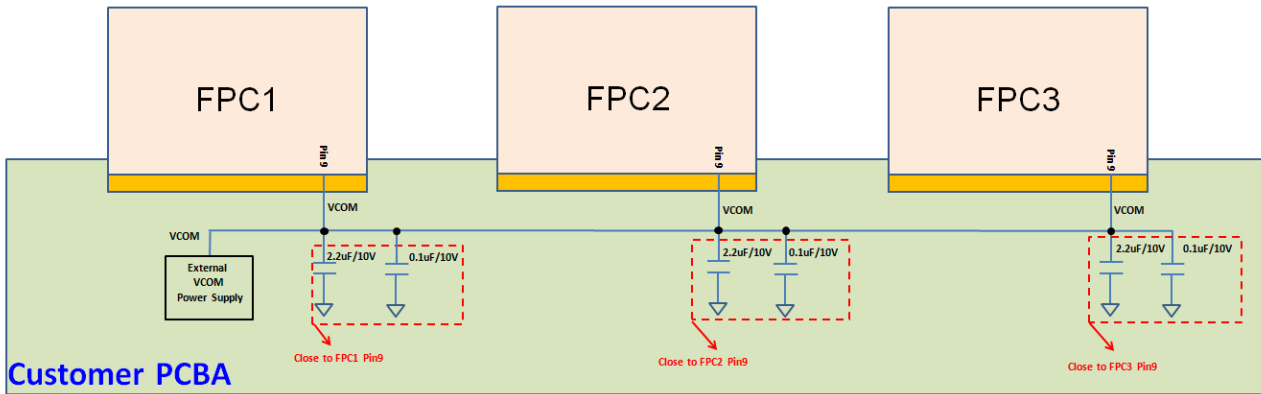

Figure 13: Cascade design with regulator outputs (VCOM)
- (4) The VCOM voltages are provided by external power (Figure 13) ;
- (5) The capacitors of VCOM need to be as close to FPC as possible (Figure 13) ;